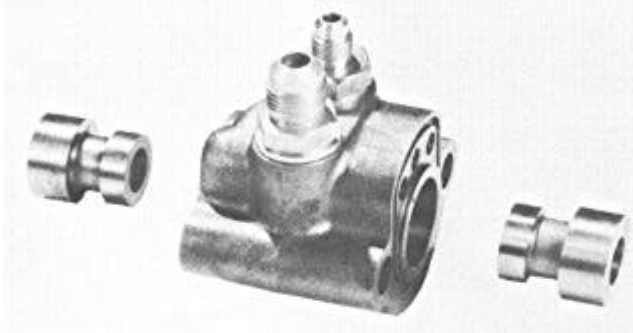

FIGURE 13
12. Slide spools out of valve housing, Figure 13, being careful not to scratch or drop either the spools or the housing.
meter spool in the end of the housing having the 3 small holes, Figure 13.